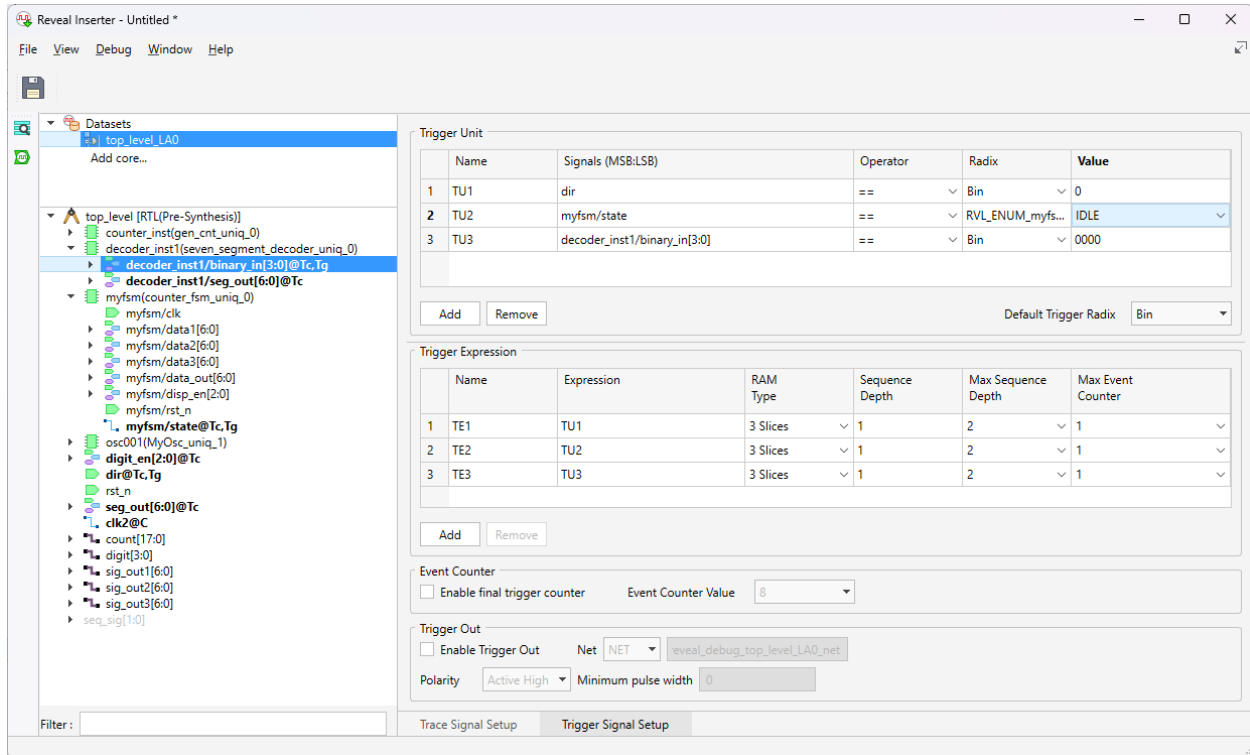

Figure 48: Reveal Trigger Signal Setup Tap
- The Trigger Signal Setup tab should now resemble Figure 48. You have the option to change the value associated with Trigger Units (e.g. State == DISP1)